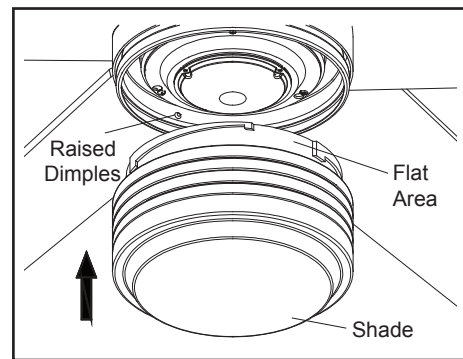

Figure 17
5. Place the shade into the light kit pan, aligning the three flat areas on the top of the shade with the three raised dimples in the light kit pan. Turn the shade clockwise until it stops. Make sure to twist the lens in completely. Exert enough force to get over the first bump and twist completely in. (Figure 17)